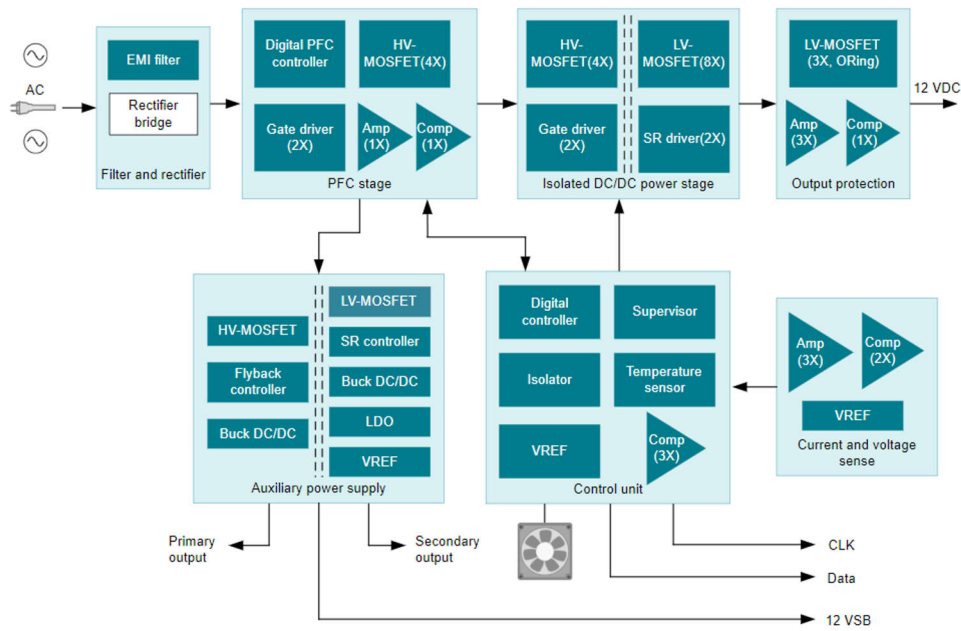

Figure 5-3. Server Block Diagram
3. Customers can mention that the power consumption is too high during no load testing. However, the EVM test result is around 100mW. Customers measured higher power consumption because the dummy loading still present even the main power off. As Figure 5-3 showing VDD for OPA and MCU or other analog IC and gate driver bias power, so these extra loading still needs to be considered. Customers can remove the output loading by disconnecting the diode at output winding, besides the main output with regulation feedback loop.